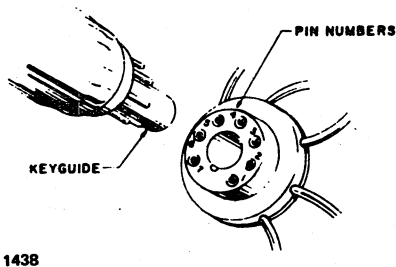

Figure 6-19. CRT Socket Removal
4. Disconnect the CRT tube socket carefully from the end of the neck of the CRT (figure 6-19). Do not remove the vinyl keyguide, which should be in position over the end of the tube for protection when the socket is removed. During installation, the keyguide assures that the socket is correctly positioned.
16. Ensure that the keyguide is in place over the pins on the end of the CRT (figures 6-19 and 6-20).